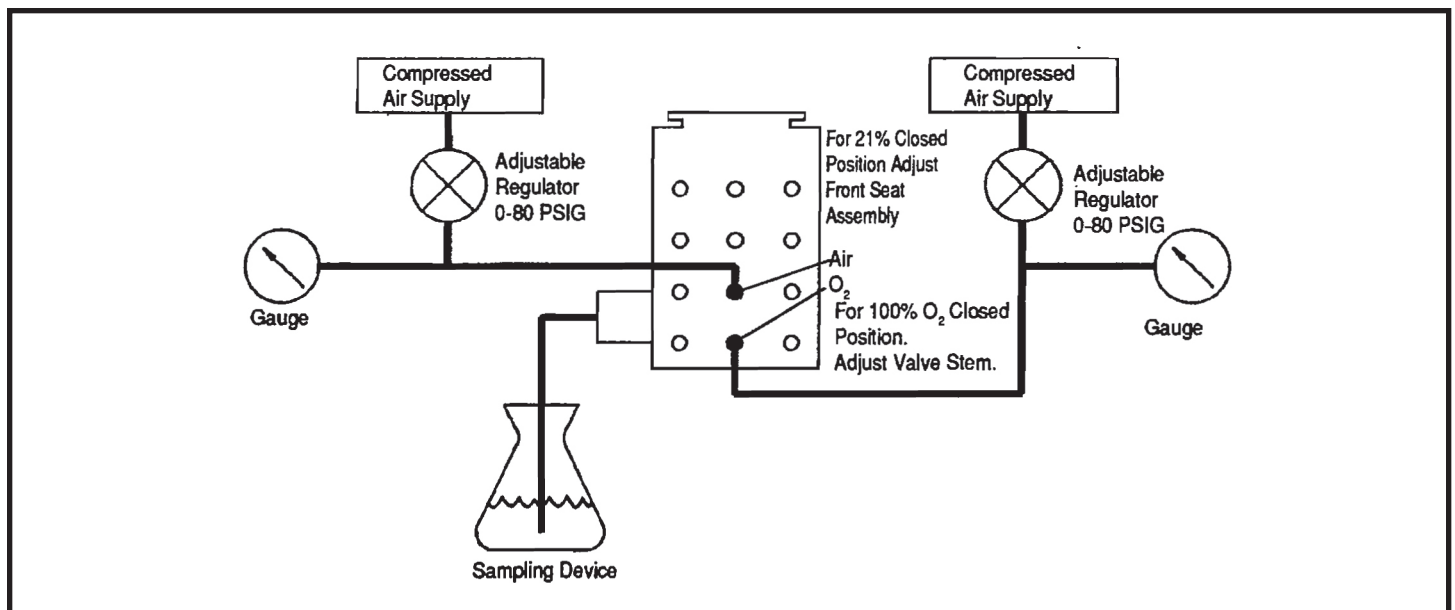

Figure 25
20.1 Connect gas supply source(s) 0-80 PSIG (0-5.62 kg/cm²) pressure regulator(s) pressure test tube(s) (P/N 10102) leak test tube (P/N 10101) and sampling beaker half way filled with water, to valve block as shown in Figure 25.